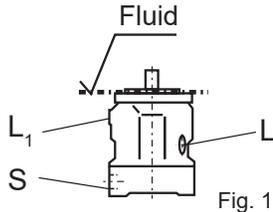

Fig. 1
- If the minimum fluid level is equal to or above the pump mounting surface leave ports "L", "L1" and "S" open (see Fig.1).